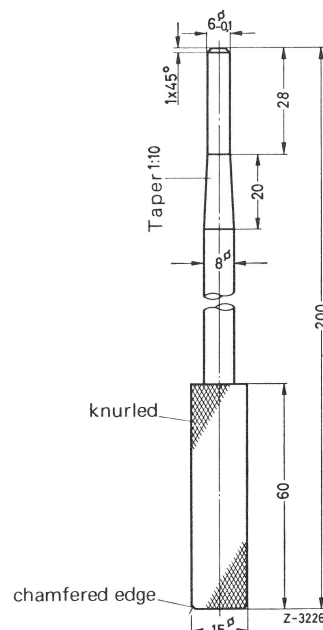

Fig. 8
**Note:** Assembly pin is self-made according to dimensions shown in Fig. 8.